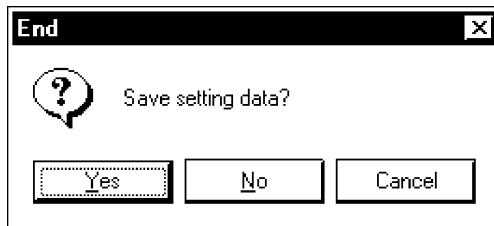

Figure 9.1.4 Data Save Confirming Dialog Box
- (1) On the menu bar, click **File** then choose **Exit**.
- (2) If the current setting data has not yet been saved, the following message box appears (Figure 9.1.4).